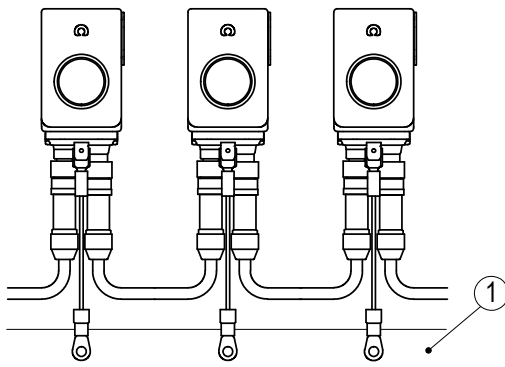

Fig. 7: Ground bar
For protection against interference, the screens of the signal lines and the power line must be connected on both sides. Potential differences cause inadmissible currents on the screen. Install the ground connection ③ onto the protective earth conductor potential between the plug connectors (see Fig. 6). Use 6.3 mm flat connectors with short strands 2.5 ... 4 mm² (not in the scope of delivery). For multiple position indicators we recommend connecting the earthing to a ground bar ① (see Fig. 7).